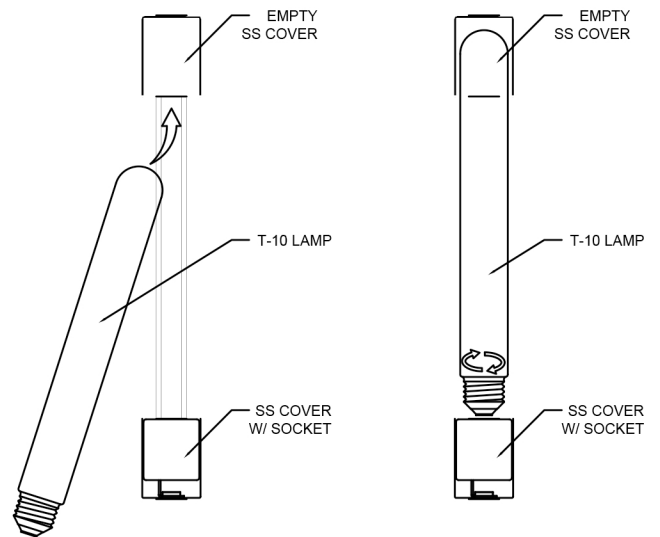

FIGURE-04
8. Install the lamps. (Type T-10 lamp) Incline the lamp and slide the tip to the empty ss cover until the position gets vertical then fasten it to the socket on the other ss cover. (See Figure-04)